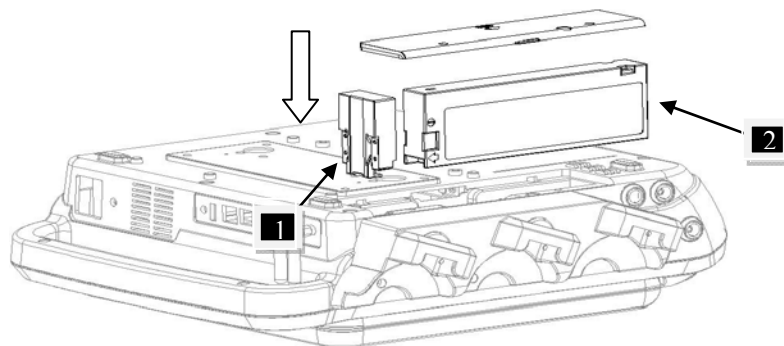

Fig.3-1
- 2) Remove the screws of the battery compartment using a cross-head screw driver. Remove the battery compartment cover, and take out the case 1("1", shown as Fig.3-1).
- 3) Plug the battery (2) to the case 1, and then put it into the battery compartment.